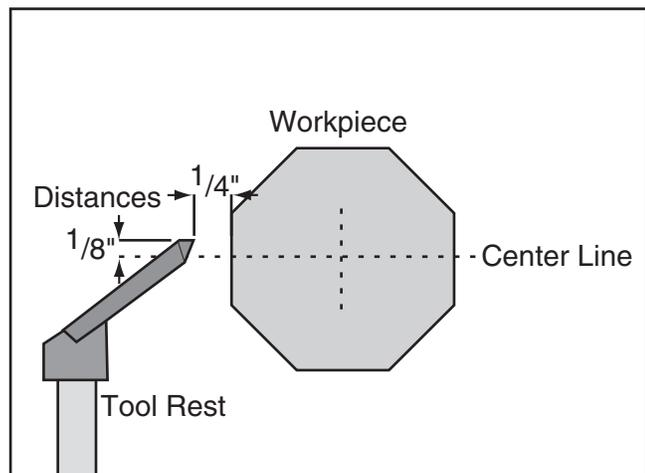

Figure 37. Tool rest position.
- Position the tool rest approximately $\frac{1}{4}$ " away from the workpiece and approximately $\frac{1}{8}$ " above the center line, as shown in **Figure 37**.